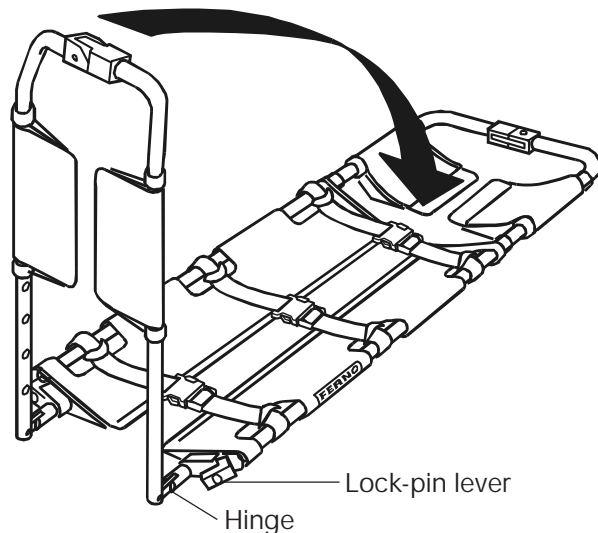

Figure 7 - Folding the Stretcher
3. Lift the foot section and fold it over onto the torso panel (Figure 7).